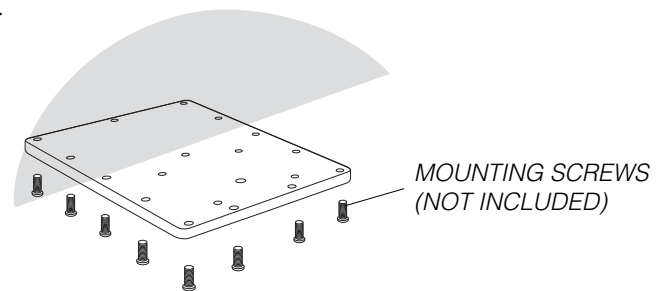

FIG. 2:
STEP 2: Attach arm to heavy duty mounting plate (FIG. 2).